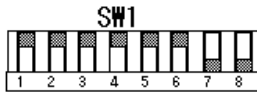

Figure 4.1 DIP Switch Setting at Shipment
- 2. Before executing the diagnostic program, make sure the DIP switches have the same settings as at shipment (refer to figure 4.1).**